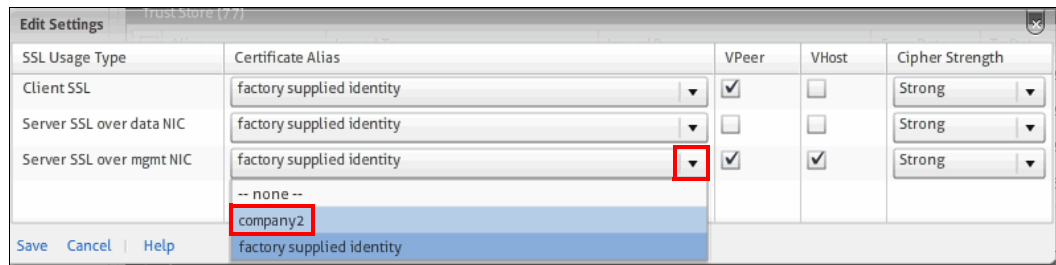

Figure 5-54 Assign Server SSL over mgmt NIC certificate
- Click the drop-down menu to the right of the Server SSL over mgmt NIC option to display a list of all certificates that are available for assignment. Select the **company2** certificate, as shown in Figure 5-54.